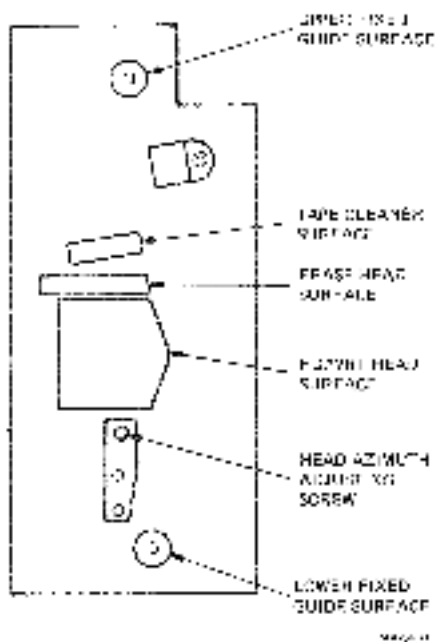

Figure 5-8 Head Skew Adjustment
1. Run test 51 (forward). Adjust the head azimuth (Figure 5-8) screw for minimum output. It must be 2.5 V or less in the forward direction.